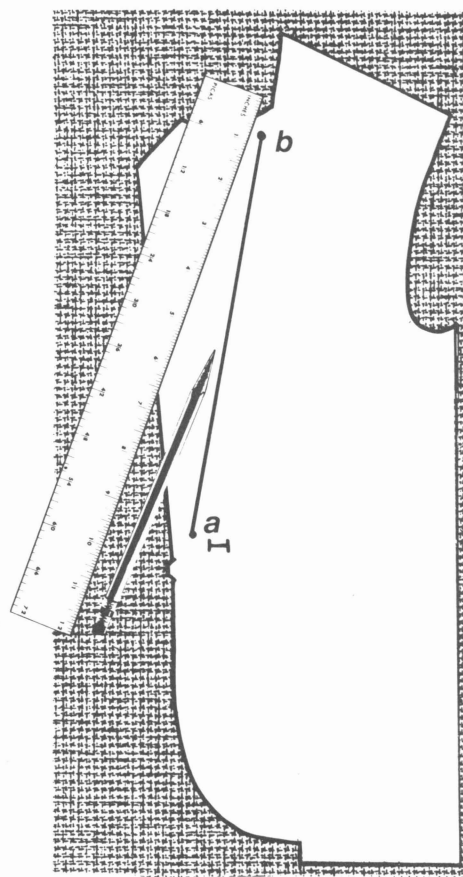

Figure 10. Mark the roll line on the interfacing.
2. Mark the front seamline, $\frac{1}{2}$ inch (1.3 cm) above the top buttonhole mark (Figure 10, point a).
3. Position one end of a ruler $\frac{3}{4}$ inch (2 cm) from the point where the neck and shoulder seamlines meet (Figure 10, point b).